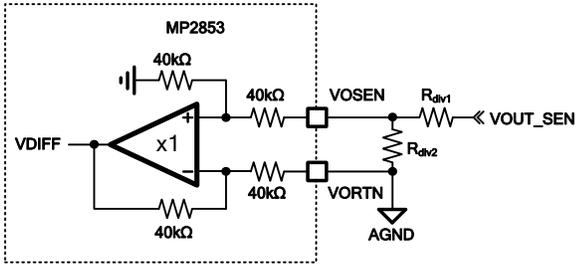

Figure 6: Output Divider Connections when Remote Sense is not Applied
For output voltage designs above the VOSEN specification, connect the output divider as shown in Figure 6. VORTN is connected to AGND directly to disable remote sensing.
Calculate the voltage divider ratio in Figure 6 with Equation (5):